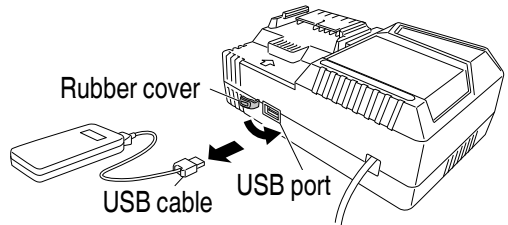

Fig. 22
(3) When charging is completed
- Unplug the power cord from the electrical outlet. (Fig. 22)